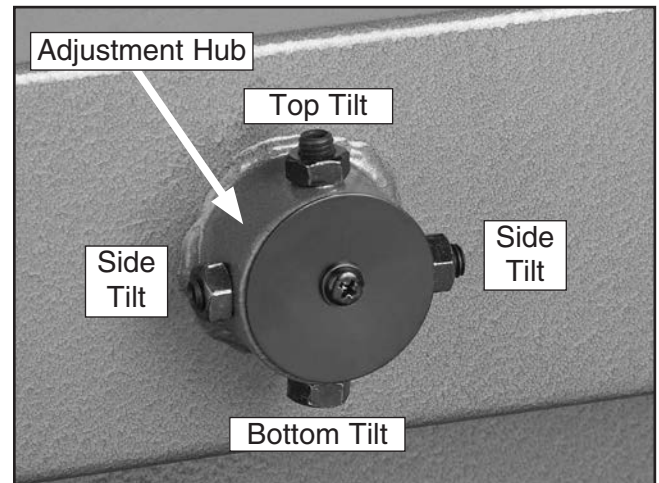

Figure 62. Lower wheel adjustment control.
5. Adjust the tracking knob to get both wheels parallel. If the wheels won't go parallel to each other, then move the lower wheel at the adjustment hub (**Figure 62**) so they line up.